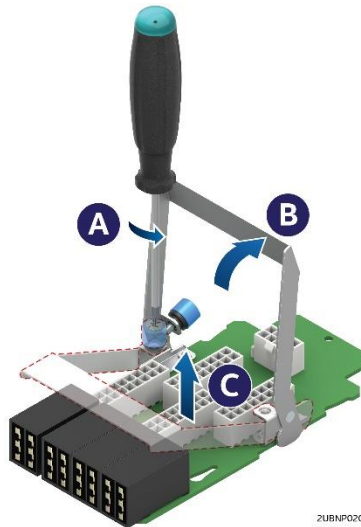

Figure 55. Removing the power interposer board
Loosen the screw (A), rotate the bracket clockwise (B), and lift up the power interposer board (C) as pictured in Figure 55.